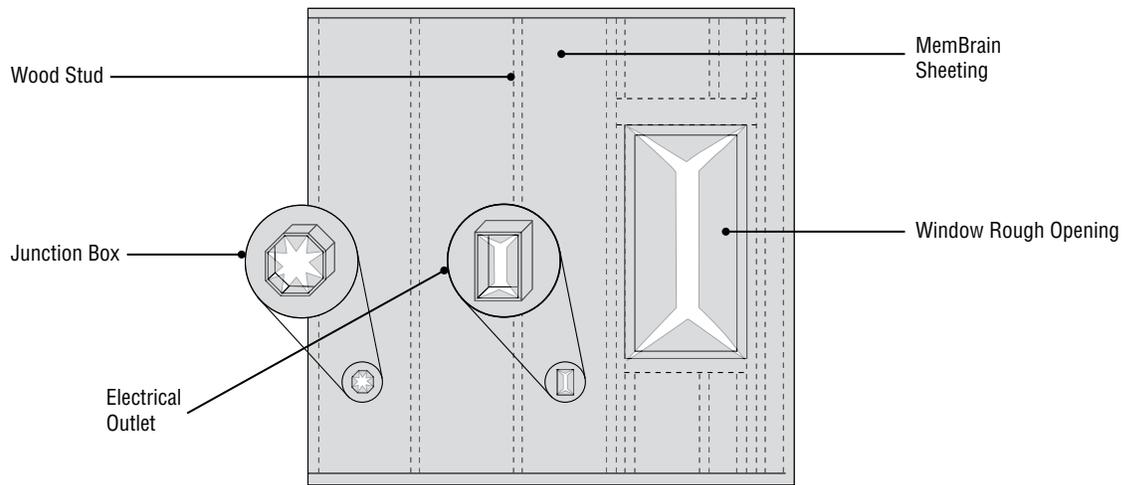

Figure 7: Cut MemBrain sheeting to tightly fit penetrations.
- Cut and fit the MemBrain sheeting tightly around the penetrations. (See Figure 7.)
Window and Door Treatment – Figures 7 through 10
- Slit the film at the corners. (See Figure 7.)